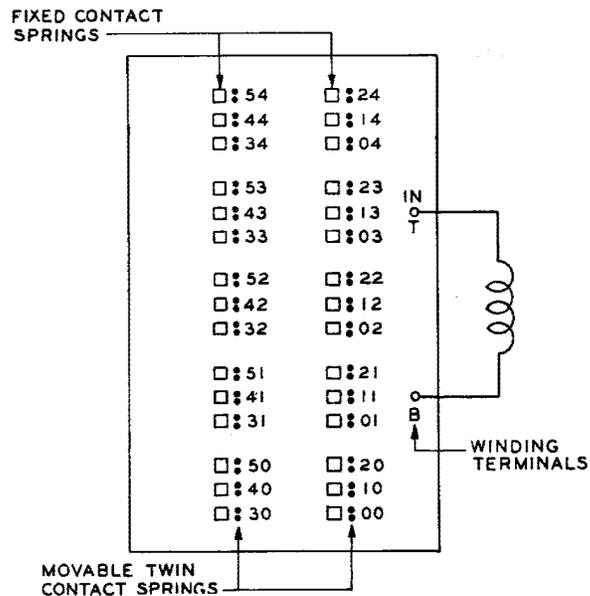

Fig. 58 — Winding and Contact Spring Arrangement as Viewed From the Front (contact side) — 286-Type Relay
(1) As viewed from the front of the relay, there are 30 make contact positions arranged in two vertical rows of 15 positions each. Each vertical row is divided into five groups of three positions each. Each position has a single fixed contact spring and associated movable twin contact springs. The movable twin contact springs are at the right of their associated fixed contact springs. The contact arrangement and the numbering of the contact springs are shown in Fig. 58.
(2) Referring to the figure, all contact positions are designated by 2-digit numbers. The five groups of three contact positions in both vertical rows are numbered from 0 to 4 starting at the bottom. These numbers appear as the second digit in the designations of each of the three contact positions in the respective groups. In the right vertical row, the three contact positions in each of the five groups are numbered 0, 1, and 2 starting at the lowest position in the group. This number